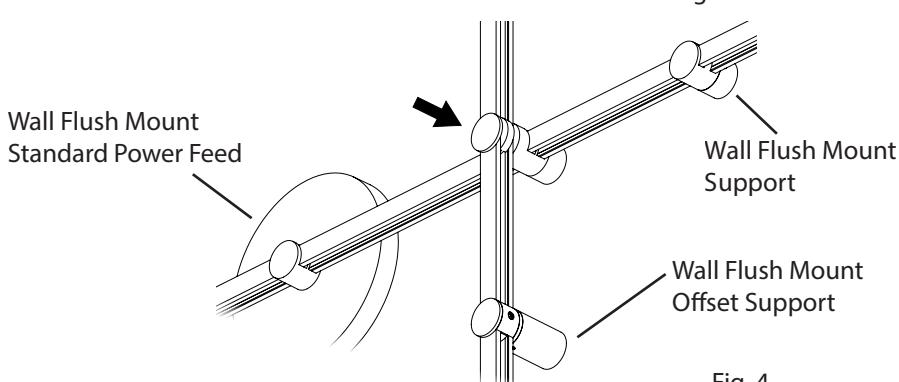

Fig. 4
2. Insert **Power Bars** into **Support**. **Note:** Wall Mount Perpendicular Power Bar Hanger (1XB03WP00x) is to be used in conjunction with Wall Flush Mount Support (1XB02WL00x), Wall Flush Mount Offset Support (1XB02WL01x) (Fig 4), and Wall Flush Mount Standard Power Feed (1XA08WL01x) or Remote (1XA08WL02x) (Fig 4).
4. Press down firmly on the top of the **Power Bar**, while pressing up on the bottom of the **Power Bar Hanger**, until the Power Bar clicks into place (Fig. 4).